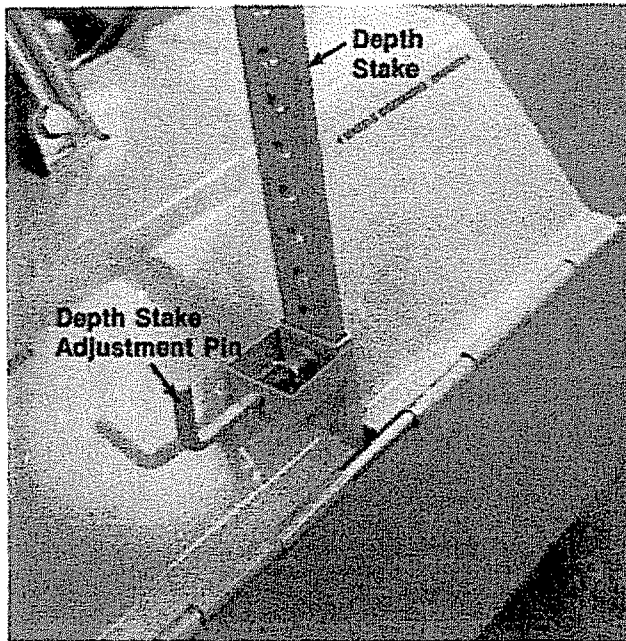

FIGURE 35.
1. Adjust the depth stake by pulling the depth stake adjustment pin. Release the depth stake. See figure 35.